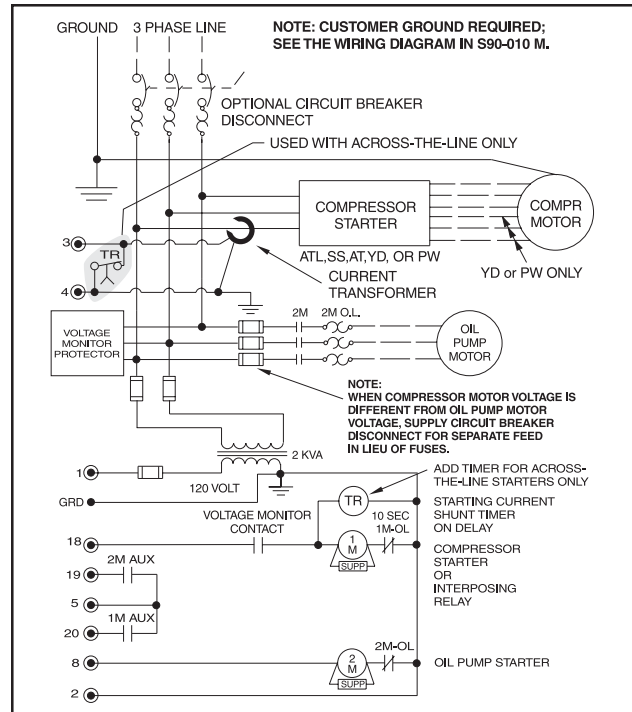

Figure 10 - STARTER WIRING DIAGRAM
**CAUTION** If the shunting device is not installed, the Analog I/O board on the **Quantum** panel may be severely damaged at start-up (see Figure 10).